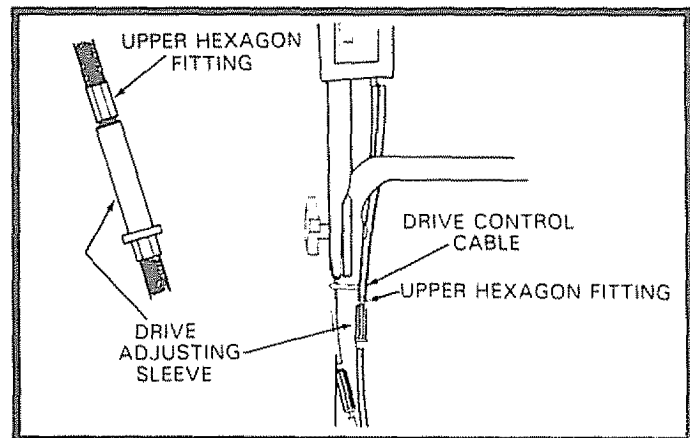

FIG. 27
- To make the Drive Control adjustment, hold the upper hexagon fitting and turn the Adjusting Sleeve clockwise, from operator position (See Fig. 27).